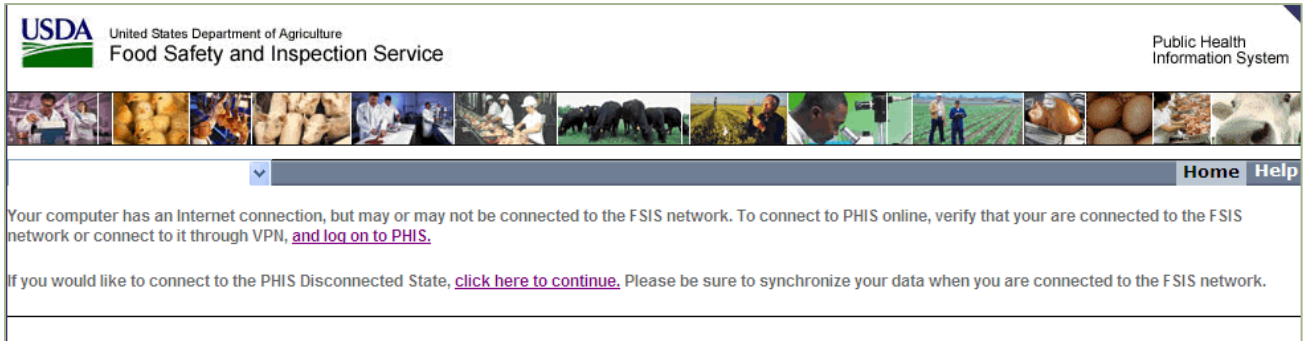

Figure 4: PHIS Transfer Page
4. When the process is complete, the PHIS Data Synchronization Application and the PHIS offline application will open. Since you are still connected to the FSIS Network, the PHIS Transfer page will open (see Figure 4: PHIS Transfer Page).